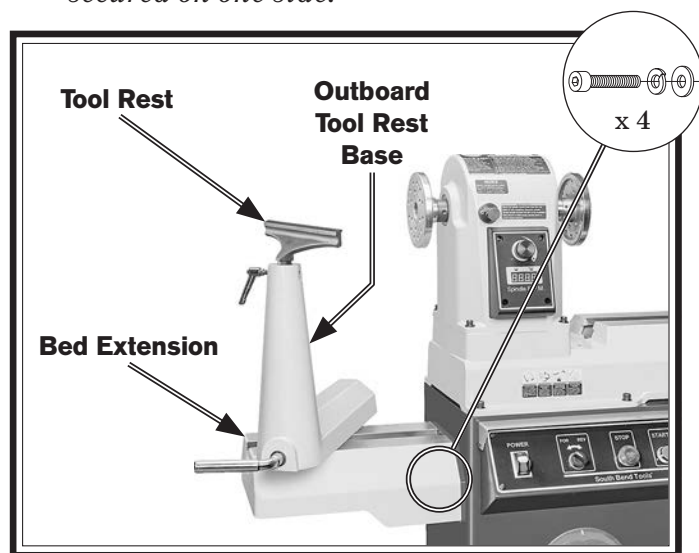

Figure 39. Outboard bed extension installed with optional SB1129 tool rest base.
3. Secure bed extension with (4) M10-1.5 x 30 cap screws, 10mm lock washers, and 10mm flat washers (see **Figure 39**).
4. Install Model SB1129 Outboard Tool Rest Base on bed extension (see **Figure 39**).